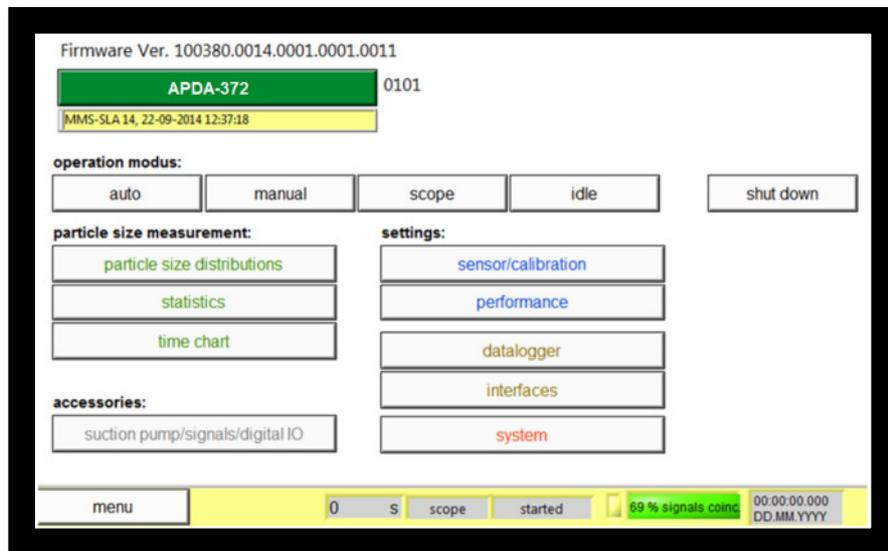

Figure 16: Expert user menu
You are now in the Expert User menu (Figure 16). You can return to the APDA-372 main menu from here by clicking on the green APDA-372 bar at the top left. Please click on “system” to continue:
- You are now in the Expert User menu (Figure 16). You can return to the APDA-372 main menu from here by clicking on the green APDA-372 bar at the top left. Please click on “system” to continue: